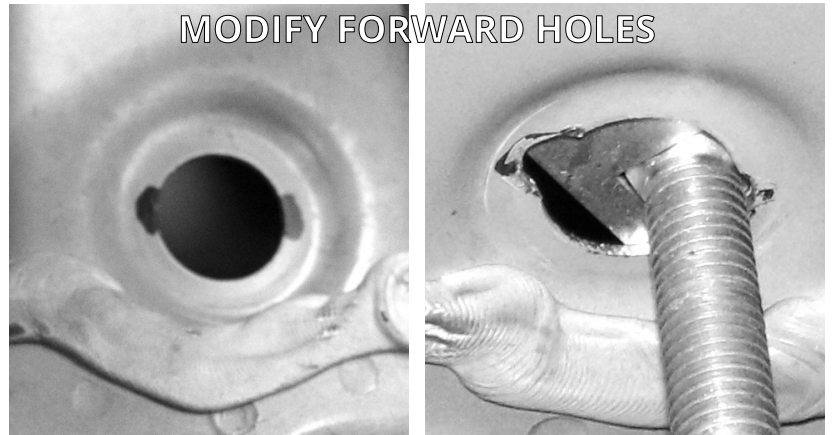

FIGURE A2: VIEW UNDER THE REAR OF THE VEHICLE
2. The two forward holes will need to be modified with a file, die grinder, or similar tool to allow the head of the 1/2" carriage bolt to pass through the hole. Remove 3/16" of material from either side of the forward holes, as shown in Figure A2.